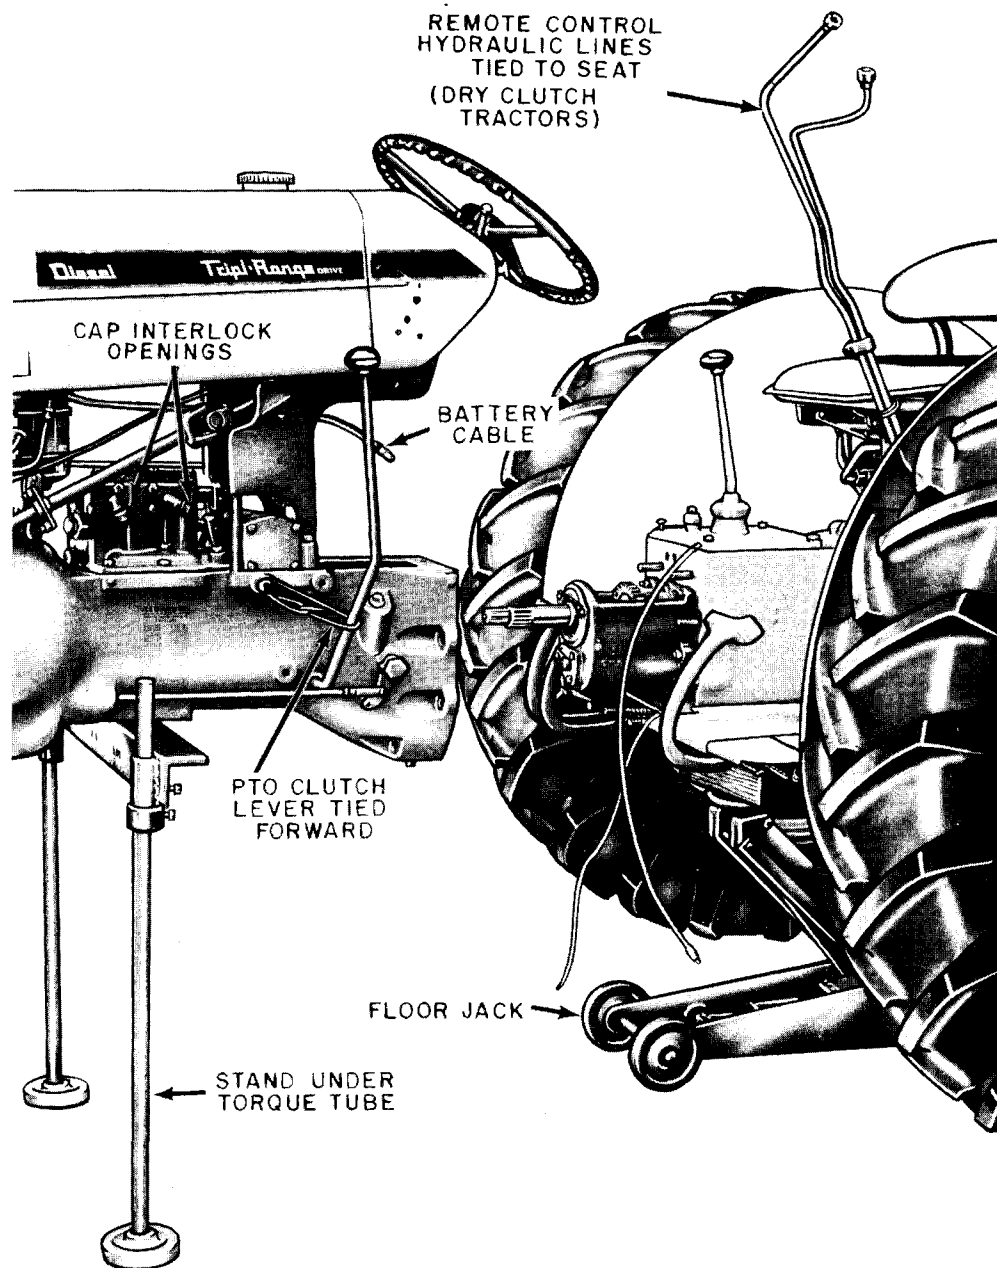

Fig. A-14 Tractor Split at Rear End of Torque Tube
17. If dry clutch tractor is equipped with remote control hydraulic lines, remove at interlock and tie them out of the way to tractor seat. Fig. A-14, page A-16.
20. If dry clutch tractor is equipped with constant running P.T.O. be sure to engage P.T.O. lever, and tie it forward as shown in Fig. A-14. This is to pre-
vent plates from coming out of drum in P.T.O. 21. Tractor can now be separated as shown in Fig. A-14.